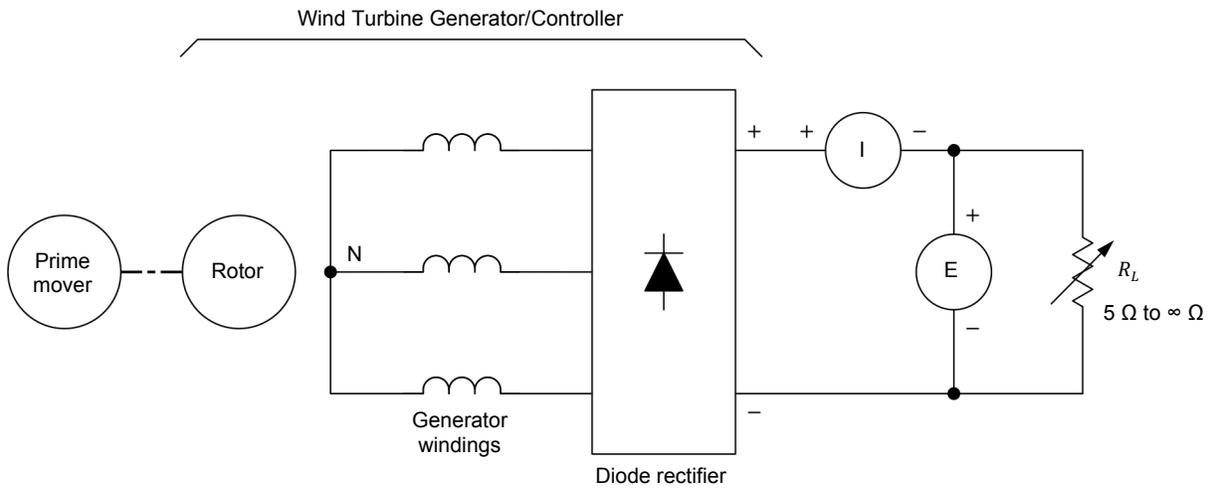

Figure 35. Equipment setup.
9. Set up the circuit shown in Figure 35. In this setup, the prime mover drives the wind turbine generator, thereby producing an ac voltage across the generator windings. A diode rectifier in the Wind Turbine Generator/Controller converts this ac voltage into dc voltage to supply electrical dc power to a variable resistive load,  $R_L$  (5  $\Omega$  to infinite  $\Omega$ ).
Set a multimeter to measure dc voltage and connect it across the load, as Figure 35 shows.
*Appendix C of this manual lists the switch settings to be performed on the Resistive Load module in order to insert various resistance values into the circuit. The resistance provided by the Resistive Load module cannot be decreased below  $57\ \Omega$ . To further decrease the load resistance, stop the prime mover (wind-turbine emulator), then disconnect the Diode Rectifier output of the Wind Turbine Generator/Controller from the Resistive Load module. On the Wind Turbine Generator/Controller, connect the Diode Rectifier output to the Load Resistors and connect these resistors in order to set the load resistance to different values. The possible resistor arrangements (series, parallel, series-parallel) provide resistance values between  $5\ \Omega$  and  $45\ \Omega$ . Be sure to include the ammeter and the voltmeter in the circuit in order to measure the dc voltage and dc current supplied to the load, as shown in Figure 35. For each load resistance setting, start the prime mover and record the rotation speed, torque, and mechanical power at the wind turbine rotor in Table 3. Also, record the dc voltage and dc current supplied to the load by the wind turbine generator. Stop the prime mover before modifying any connection between these Load Resistors.*
Connect the multimeter set to measure dc current in series with the *Diode Rectifier* output, as Figure 35 shows. Connect the multimeter set to measure dc voltage across the load, as Figure 35 shows.